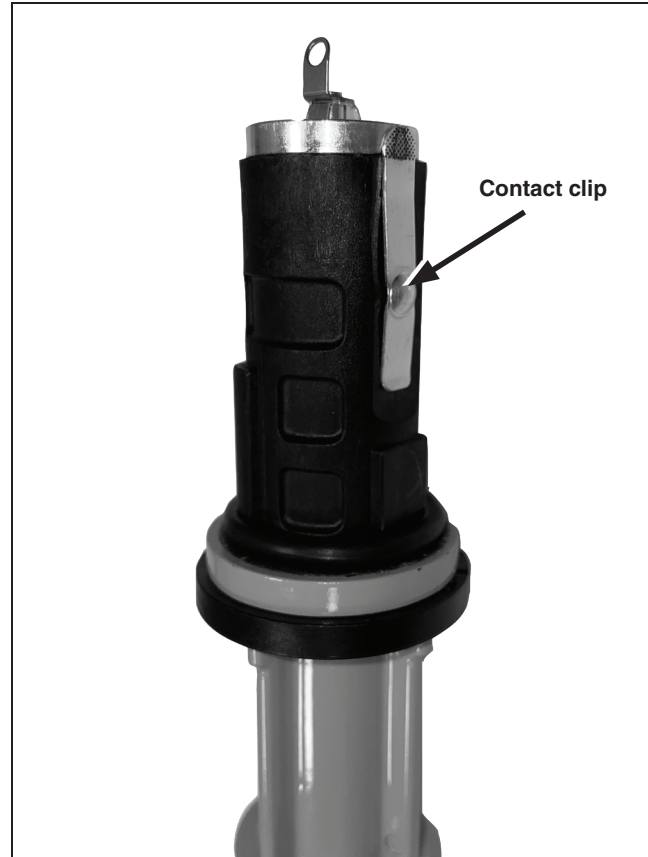

Figure 6. The Fault Tamer fuse tube contact clip.
- STEP 7.** Visually inspect the contact clip on the fuse tube as shown in Figure 6 for damage or erosion. Fuse tubes with contact clip damage or erosion should be replaced.